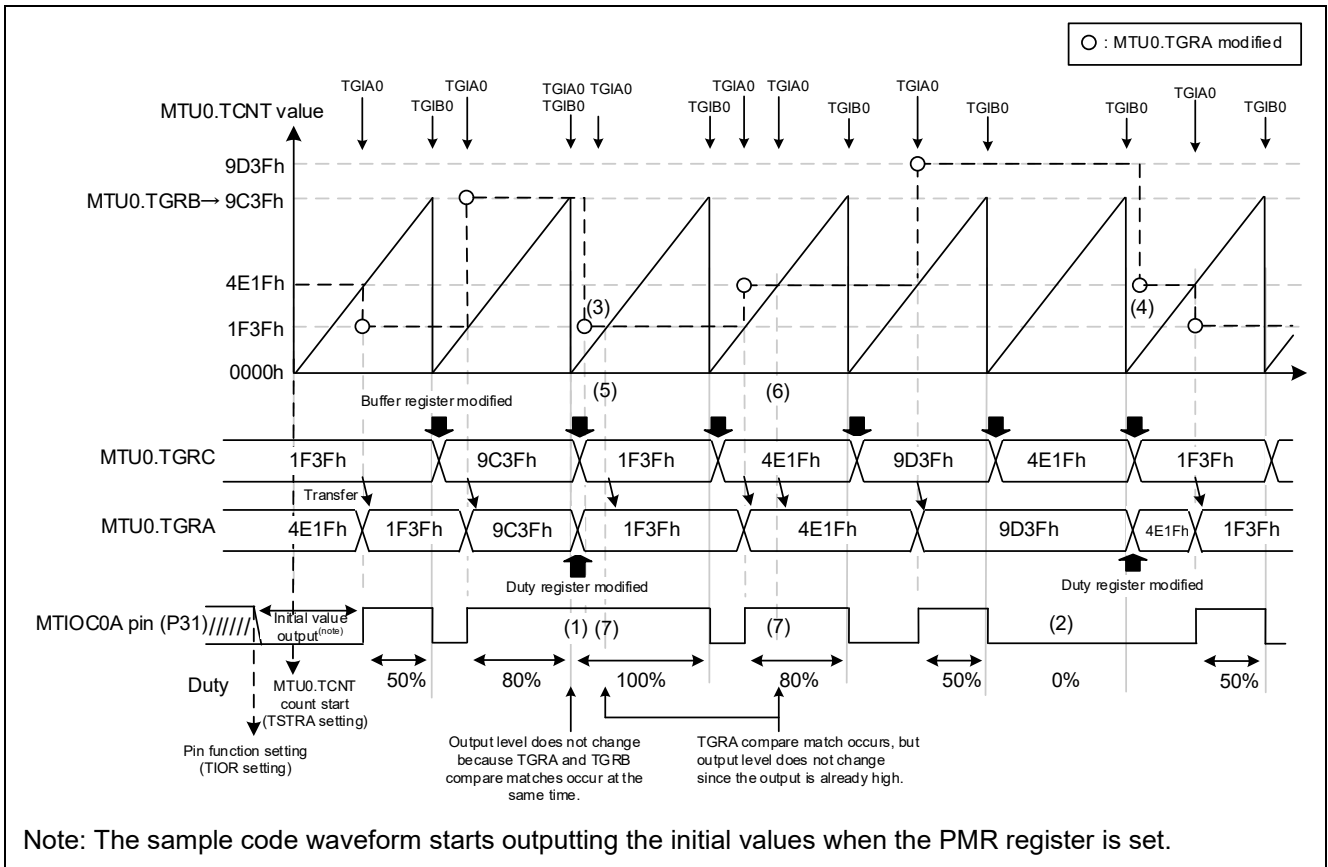

Figure 3.77 Sample Code Operations
- Refer to Figure 3.77 for details on the timing for duty cycle changes
The sample code operations are shown in Figure 3.77. The basic operation is to make changes to the settings of the duty cycle with each period by modifying buffer register TGRC value at the compare match interrupt (TGIB0) of period register TGRB and transferring the value of TGRC to duty register TGRA when a TGRA compare match occurs
When the TGRA value is the same as the TGRB value, both compare matches occur at the same time. Because output does not change when two compare matches occur at the same time, high is retained and 100% duty cycle is output ((1) in Figure 3.77).
When the TGRA value is higher than the TGRB, low is retained and 0% duty cycle is output because the TGRA compare match does not occur ((2) in Figure 3.77).
When 100% duty cycle is output, TGRA and TGRB compare matches occur at the same time. As a result, there is no timing for modifying the TGRC to a new value. When switching from duty cycle 100% to 0%, the values of the TGRA register is directly modified when TGIB0 occurs ((3) in Figure 3.77).
When 0% duty cycle is output, a TGRA compare match does not occur because the TGRA is greater than the TGRB. As a result, there is no timing for transferring the value of the TGRC to the TGRA. When switching from duty cycle 0% to 50%, the values of the TGRC and TGRA registers are directly modified when TGIB0 occurs ((4) in Figure 3.77).
When switching from duty cycle 100% to 80%, two compare matches will occur, including the TGRA compare match that occurred at the same time as the TGRB compare match ((5) in Figure 3.77).
This will cause two TGRA compare matches to occur in one cycle ((6) in Figure 3.77).
The waveform does not change because the second TGRA compare match occurs during high output ((7) in Figure 3.77).